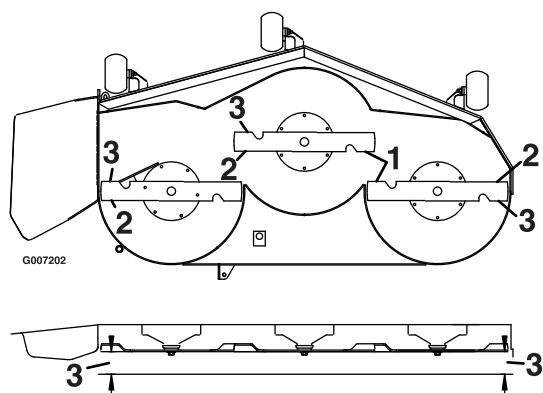

Figure 64
4. Measure between the outside cutting edges and the flat surface (Figure 64). If both measurements